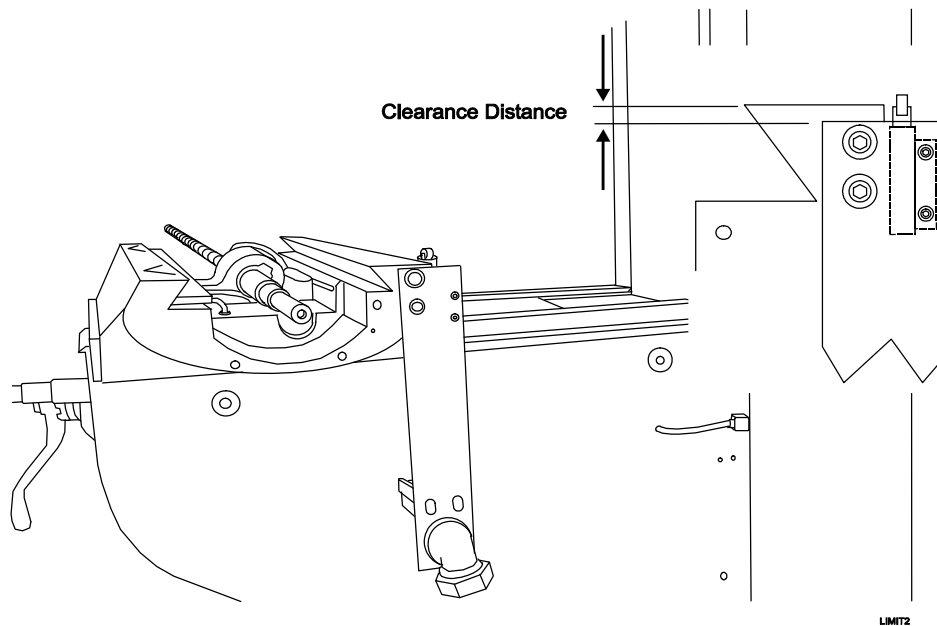

Figure 3-6, Mounting the Bracket
4. Mount the limit switch bracket to the saddle. Use the two 1/4-20 x 1" Allen screws, P/N 86100503, lock washers, P/N 66100112, and washers, P/N 66100106. Make sure the top of the bracket does not extend above the way surface. Refer to **Figure 3-6, Mounting the Bracket**.